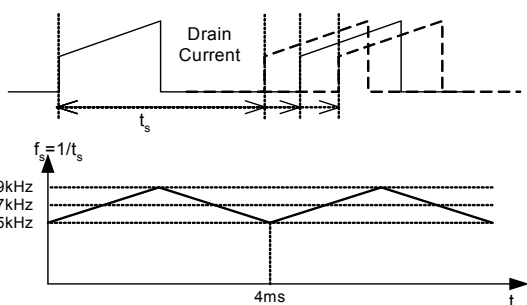

Figure 9. Frequency Modulation Waveform
**7. Frequency Modulation :** Modulating the switching frequency of a switched power supply can reduce EMI. Frequency modulation can reduce EMI by spreading the energy over a wider frequency range than the bandwidth measured by the EMI test equipment. The amount of EMI reduction is directly related to the depth of the reference frequency. As can be seen in Figure 9, the frequency changes from 65KHz to 69KHz in 4ms for the FSDM0365RNB (48.5KHz to 51.5KHz for FSDL0365RNB). Frequency modulation allows the use of a cost effective inductor instead of an AC input mode choke to satisfy the requirements of world wide EMI limits.